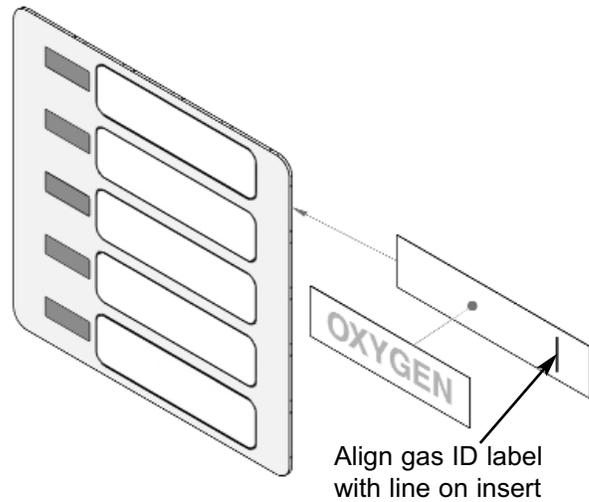

Figure 35: Multiplexer Module Labeling
2. Slide insert with label into pocket in front of multiplexer or led module (Figure 35).